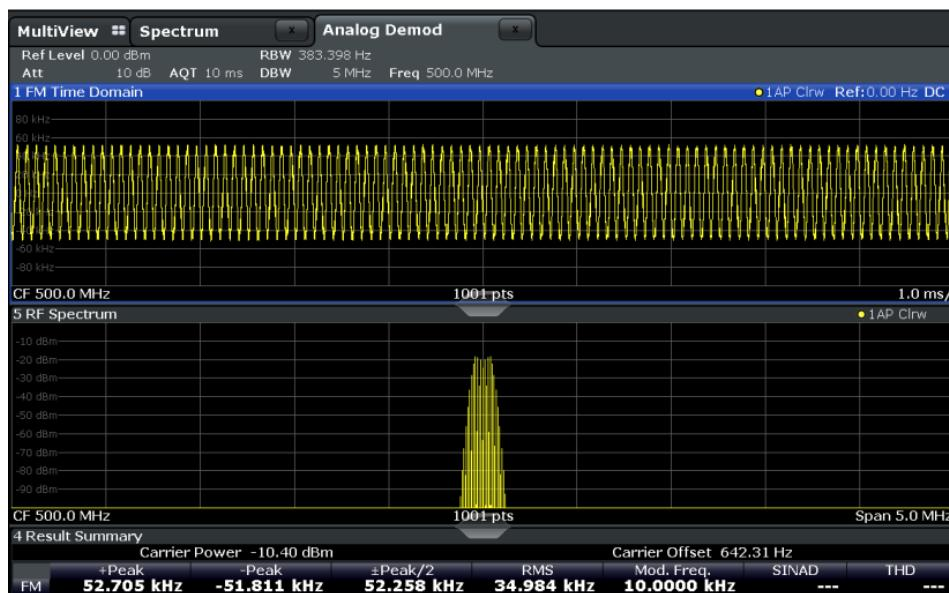

Figure 9-4: RF spectrum of FM signal with default demodulation bandwidth = 5 MHz
- As you can see in Figure 9-4, the default demodulation bandwidth of 5 MHz is much too large - the actual signal takes up only a small part of the displayed range. That means that any noise or additional signals apart from the FM signal of interest may be included in the measured results. Select the "Demod BW" softkey and reduce the value to 200 kHz.